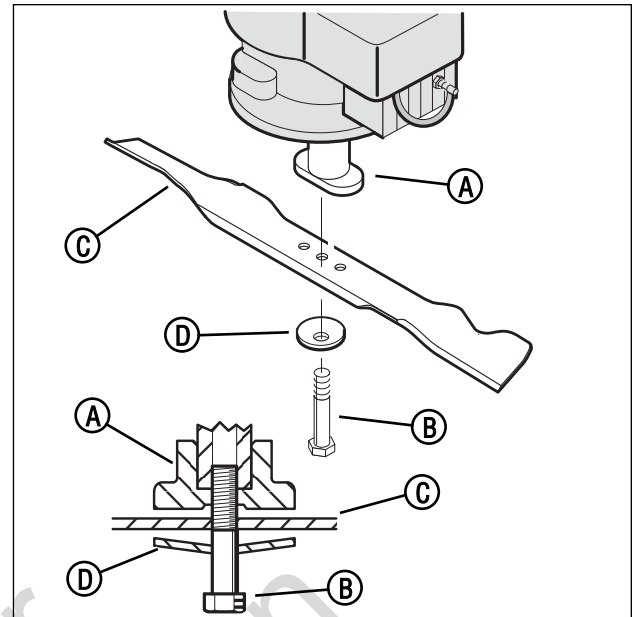

Figure 27: Removing the blade
Frequently check the blade for wear or damage such as cracks. Frequently check the bolt that holds the blade. Keep the bolt tight. If the blade hits an object, stop the engine. Disconnect the wire to the spark plug. Check the blade adapter (**A, Figure 27**) for damage. Check for a bent or damaged blade, a badly worn blade, or other damage. Before you operate the unit, damaged parts must be replaced with factory replacement parts. For safety, replace the blade every two years. Keep a sharp edge on the blade. A blade that is not sharp will cause the ends of the grass to become brown. Remove the blade as follows.
4. Remove the bolt (**B, Figure 27**) that holds the blade with a 9/16" (14mm) wrench.